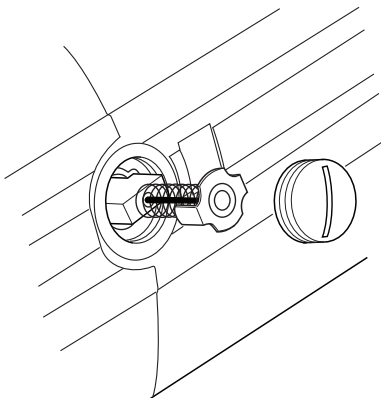

Figure 64. Motor Brush
3. Pull out the brush (see Figure 64). Repeat for the opposite side.